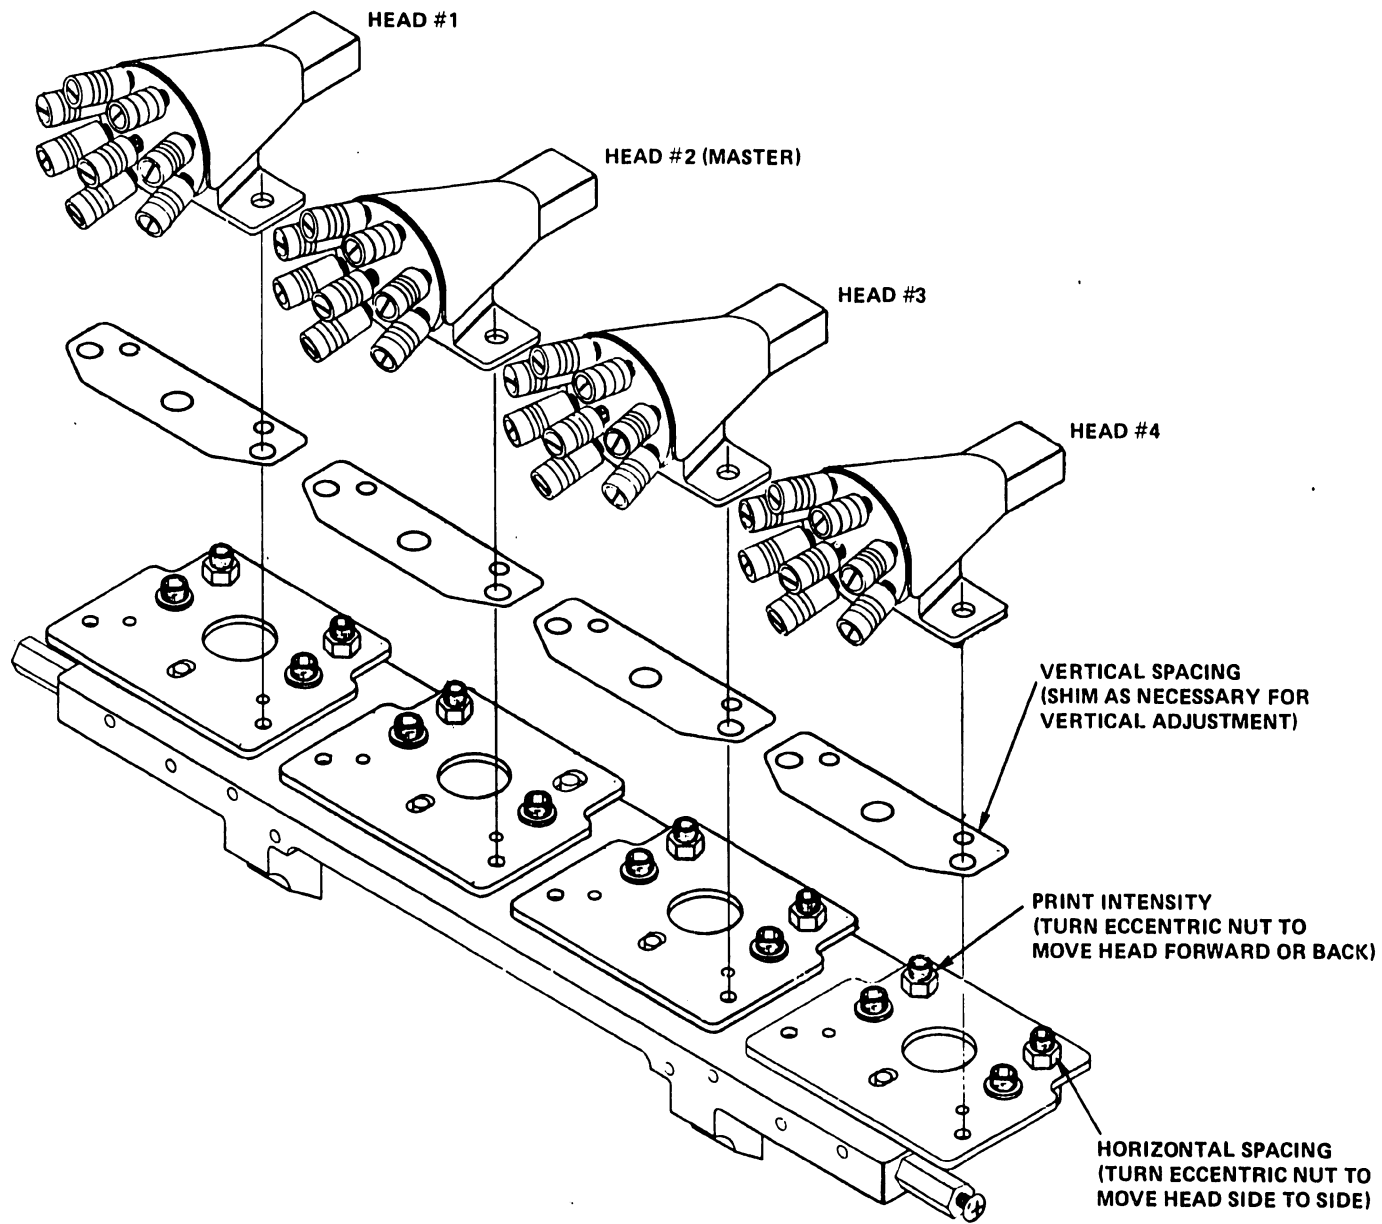

Figure 5-33. Print Head Adjustment Summary
- Perform the above adjustment on the remaining print heads, if needed, until a level print line is obtained. See Figure 5-33 for a summary of print head adjustments.